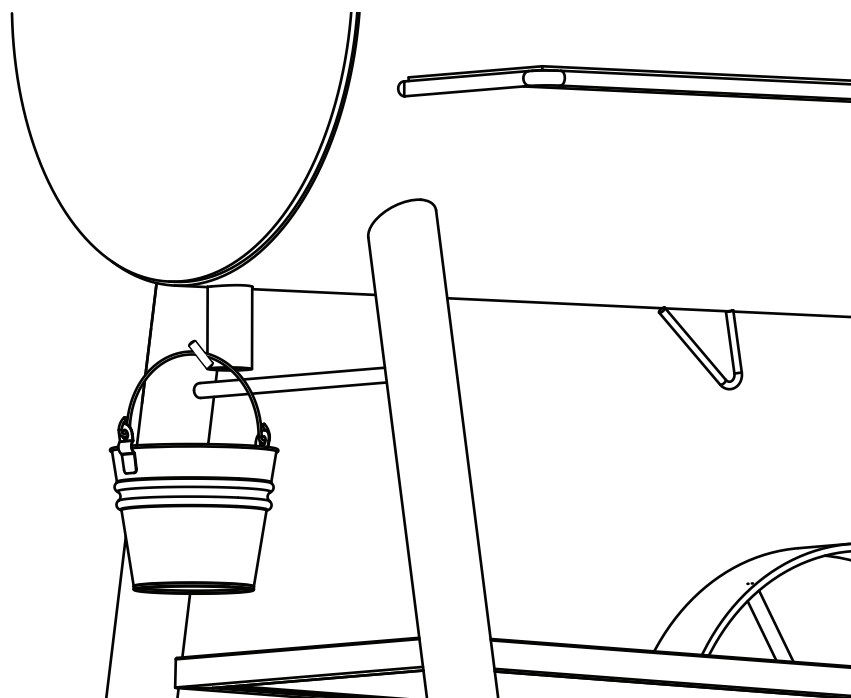

FIG 3
6. Clean grease bucket as needed. See **FIG 3**.